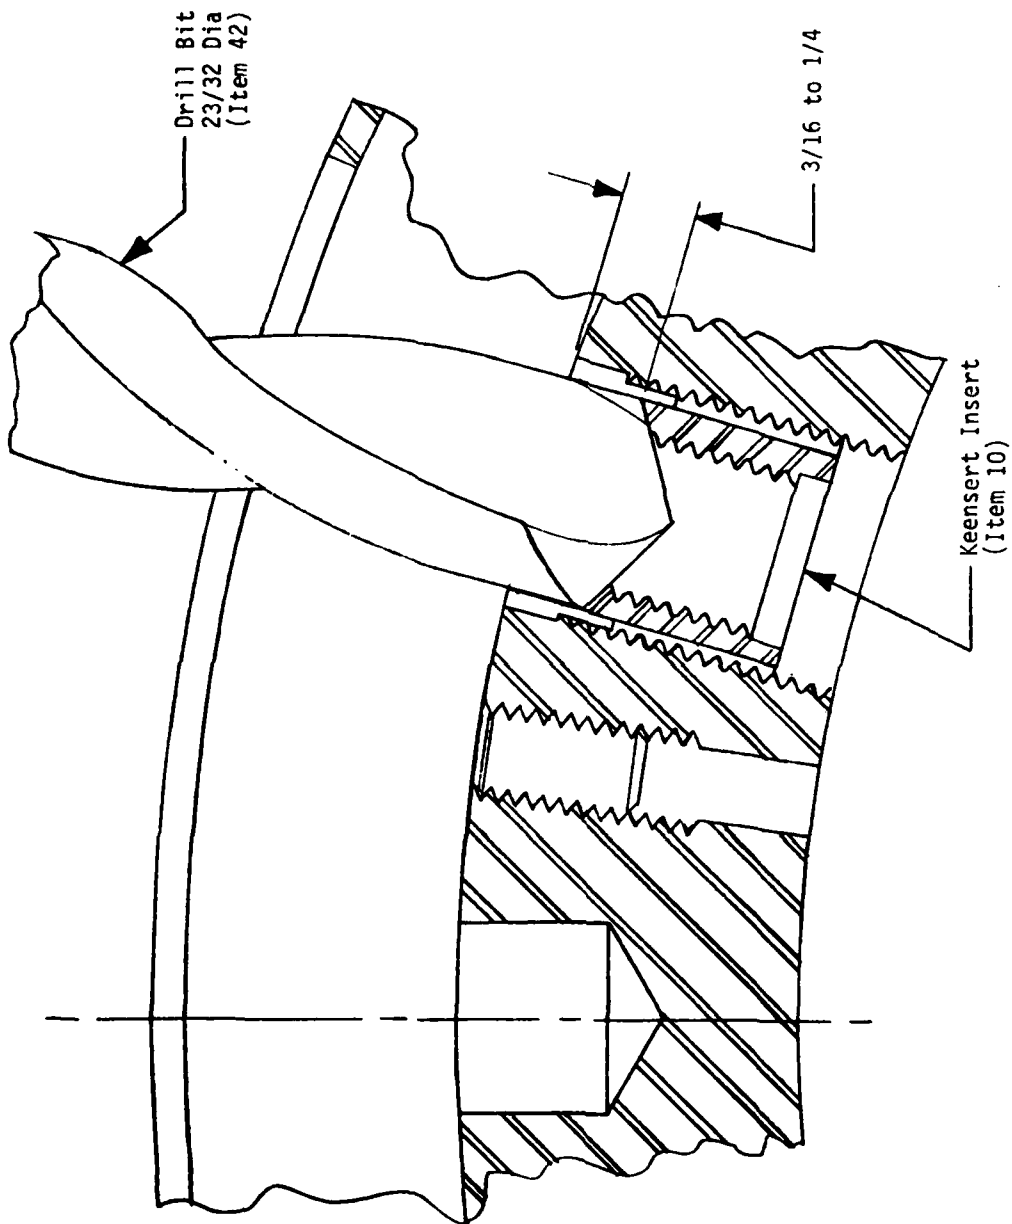

Figure 9. Keensert removal: Drill to base of kees.
4. Use the hand drill and the 23/32-inch-diameter drill bit (Item 42) and drill a hole 3/16- to 1/4-inch deep into the center of the Keensert, as shown in Figure 9.